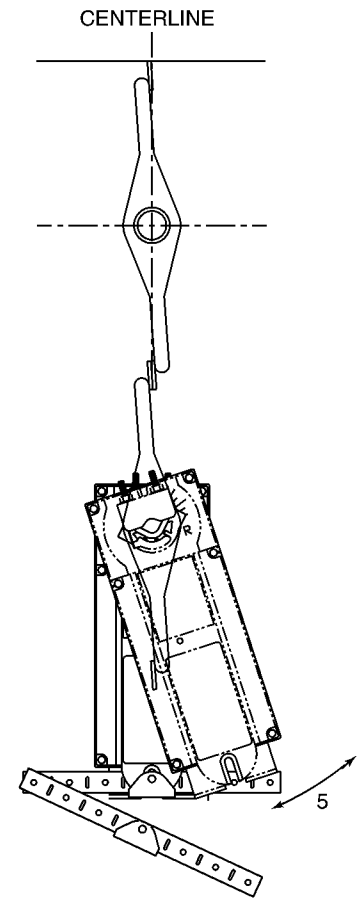
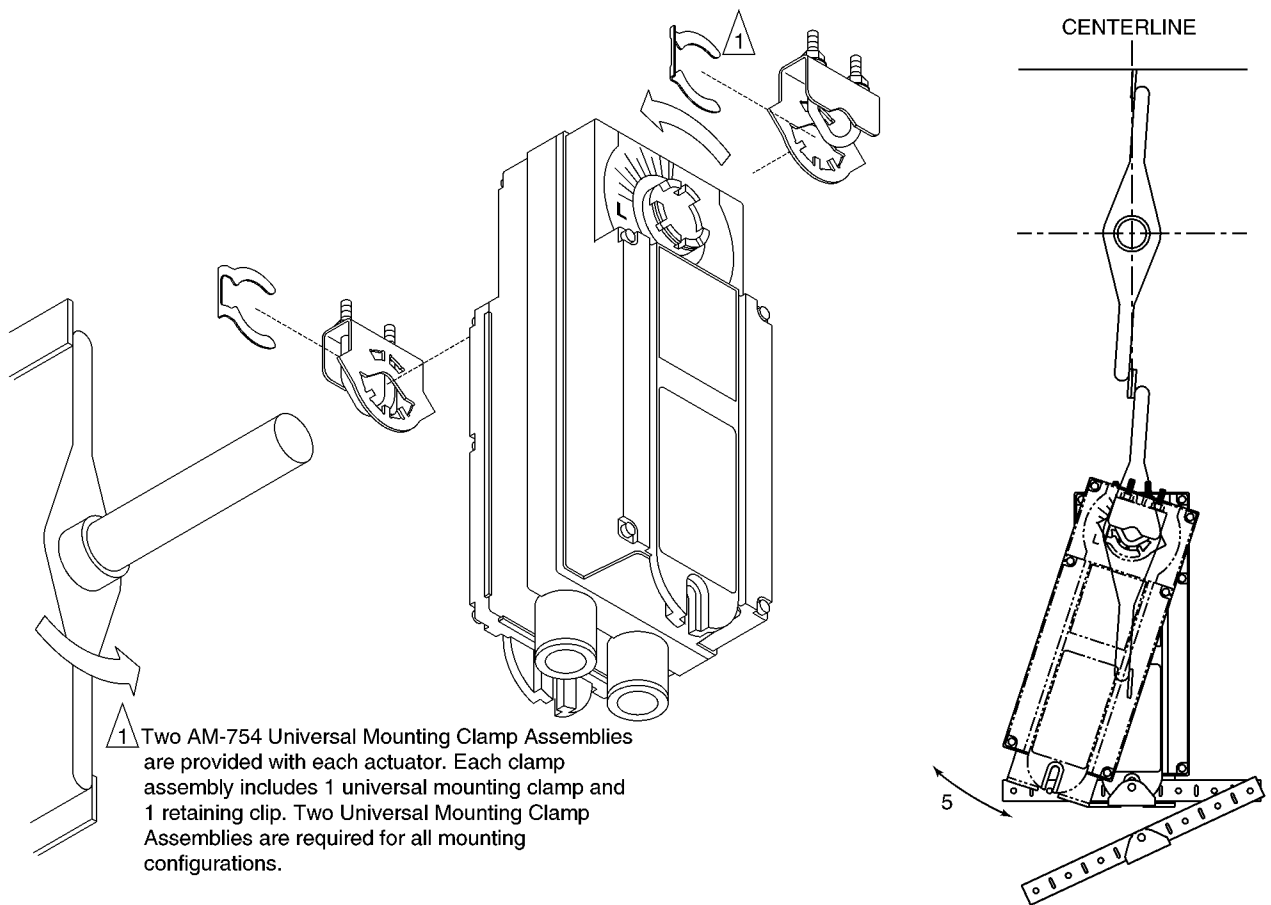

Figure-10 Long Damper Shaft Mounting with Clockwise Spring Return for Normally Closed Damper.
Figure-11 Long Damper Shaft Mounting with Counterclockwise Spring Return for Normally Closed Damper.
- If the damper shaft rotates clockwise to the closed position, mount the actuator with the side marked “R” facing the installer. See Figure-10.
- If the damper shaft rotates counterclockwise to the closed position, mount the actuator with the side marked “L” facing the installer. See Figure-11.
6. Attach one side of the anti-rotation bracket to the mounting surface with one of the screws provided. Leave the screw loose so that the bracket can be rotated. See Figure-10 for clockwise or Figure-11 for counterclockwise spring return.
7. Pivot the anti-rotation bracket away from the actuator. See Figure-10 or Figure-11.
8. Loosen the universal mounting clamps, making sure not to move the damper shaft. Rotate the actuator approximately 5° in the direction which would open the damper. See Figure-10 or Figure-11.
10. Manually rotate the actuator toward the full-closed position to apply pressure to the damper seals. See Figure-10 or Figure-11.
11. Pivot the anti-rotation bracket into place and secure the other side of the bracket onto the mounting surface using the other screw provided with the actuator. See Figure-10 or Figure-11.
12. Verify that the damper is in its full-closed position and actuator at 90° (perpendicular) to the damper shaft. See Figure-10 or Figure-11.
- If the damper shaft rotates clockwise to the closed position, mount the actuator with the side marked "R" facing the installer. See Figure-10.
- If the damper shaft rotates counterclockwise to the closed position, mount the actuator with the side marked "L" facing the installer. See Figure-11.
9. Attach one side of the anti-rotation bracket to the mounting surface with one of the screws provided. Leave the screw loose so that the bracket can be rotated. See Figure-10 for clockwise or Figure-11 for counterclockwise spring return.
10. Pivot the anti-rotation bracket away from the actuator. See Figure-10 or Figure-11.
11. Loosen the universal mounting clamps, making sure not to move the damper shaft. Rotate the actuator approximately 5° in the direction which would open the damper. See Figure-10 or Figure-11.
13. Manually rotate the actuator toward the full-closed position to apply pressure to the damper seals. See Figure-10 or Figure-11.
14. Pivot the anti-rotation bracket into place and secure the other side of the bracket onto the mounting surface using the other screw provided with the actuator. See Figure-10 or Figure-11.
15. Verify that the damper is in its full-closed position and actuator at 90° (perpendicular) to the damper shaft. See Figure-10 or Figure-11.